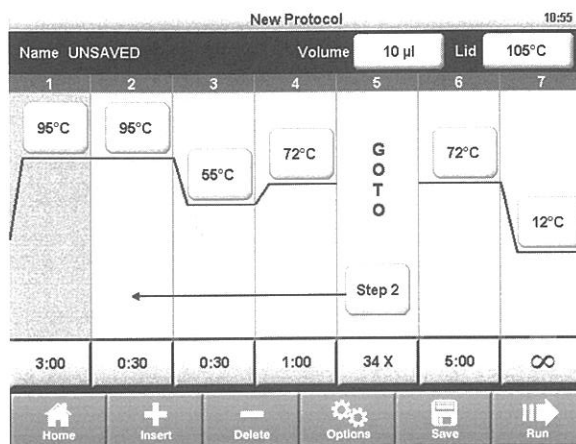

Figure 6. The template for a PCR protocol.
3. The protocol editing screen opens (Figure 6).